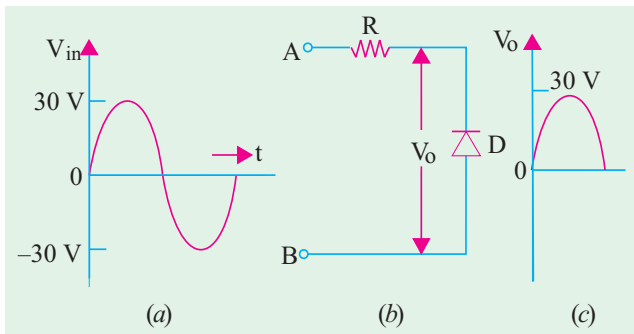

Fig. 52.31
**Example 52.19.** For the simple parallel clipper of Fig. 52.31, find the shape of the output voltage  $V_o$  across the diode if the input sine wave signal is as shown in Fig. 52.31 (a). What will happen when diode and resistor are inter-changed ?
During the negative half-cycle of the signal voltage when circuit terminal B becomes positive with respect to A, the diode is forward-biased. Hence, it acts like a closed switch (or short) across which no voltage is dropped. Hence, the waveshape of  $V_o$  is as shown in Fig. 52.31 (c). It is seen that the negative portion of the signal voltage has been removed. Hence, such a circuit is called a **negative clipper**.